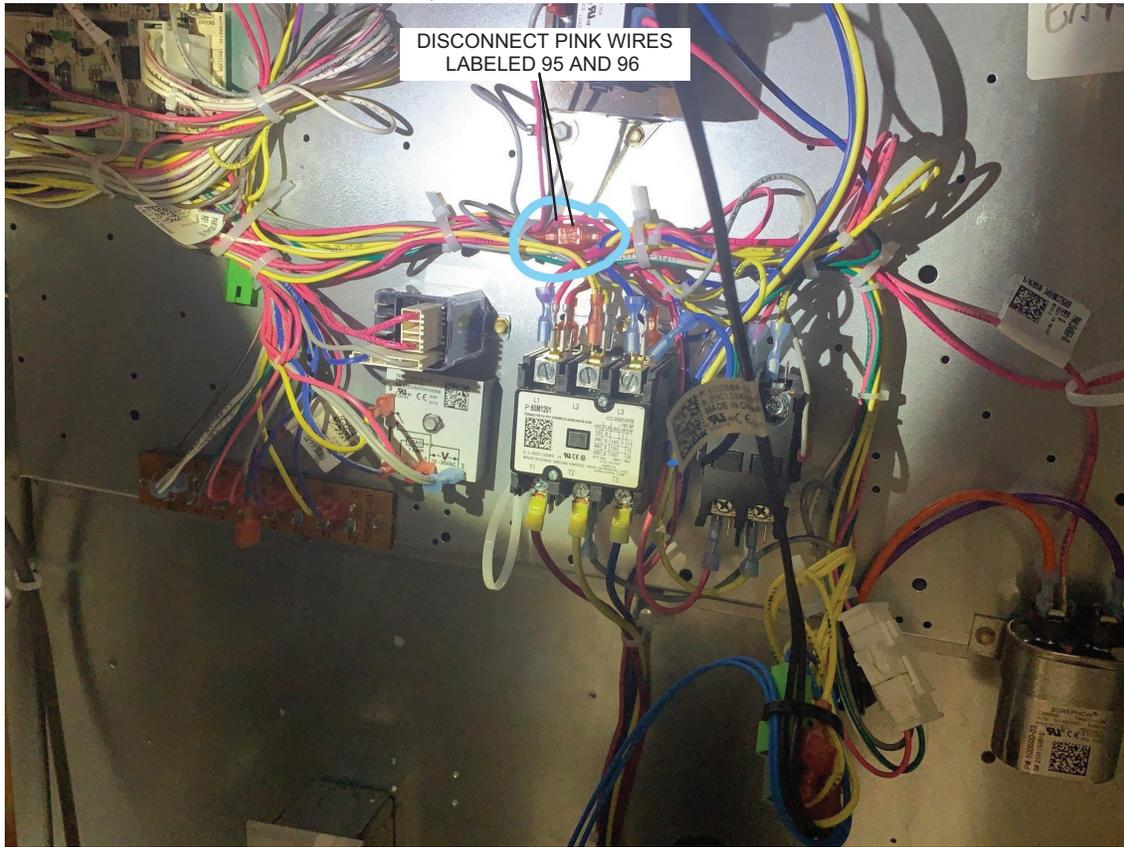

FIGURE 7
- 1 - Locate and disconnect pink wires labeled 95 and 96 in the control area above compressor. See FIGURE 7.